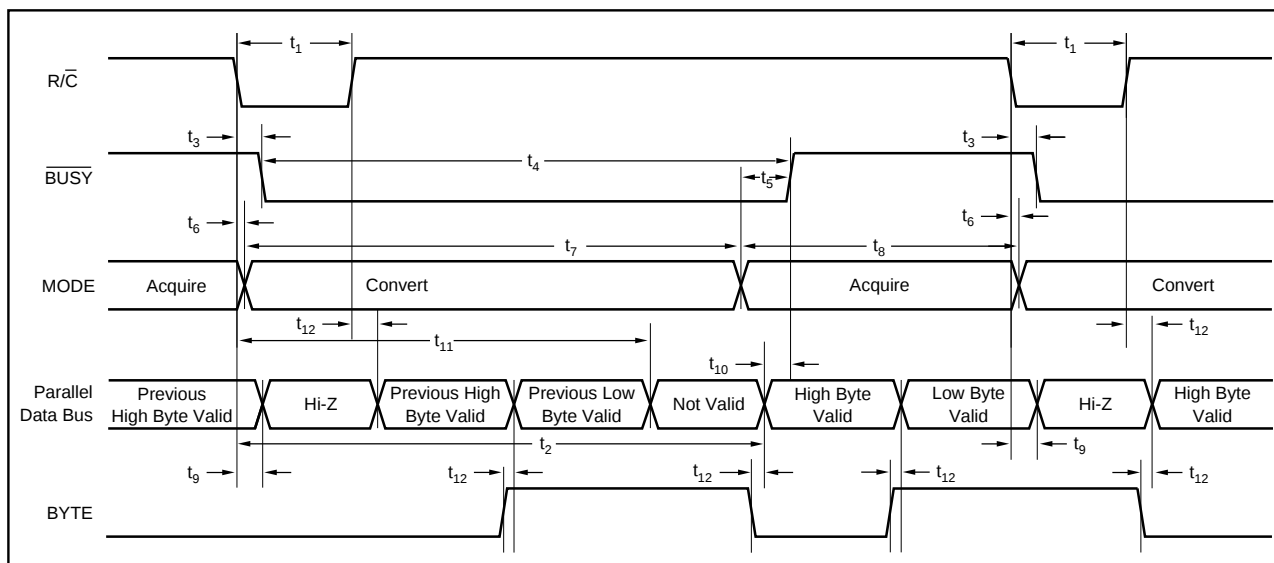

FIGURE 2. Conversion Timing with Parallel Output ($\overline{\text{CS}}$ and DATACLK tied LOW, $\overline{\text{EXT/INT}}$ tied HIGH).
The ADS7806 will begin tracking the input signal at the end of the conversion. Allowing 25µs between convert commands assures accurate acquisition of a new signal. Refer to Tables III and IV for a summary of $\overline{CS}$, $R/\overline{C}$, and $\overline{BUSY}$ states and Figures 2 through 6 for timing diagrams.
NOTE: (1) See Figures 2 and 3 for constraints on data valid from conversion "n-1".
After conversion 'n' is completed and the output registers have been updated, $\overline{\text{BUSY}}$ (pin 24) will go HIGH. Valid data from conversion 'n' will be available on D7-D0 (pins 9-13 and 15-17). $\overline{\text{BUSY}}$ going high can be used to latch the data. Refer to Table VI and Figures 2 and 3 for timing constraints.
After conversion 'n' has been initiated, valid data from conversion 'n-1' can be read and will be valid up to 12 μs after the start of conversion 'n'. Do not attempt to read data beyond 12 μs after the start of conversion 'n' until $\overline{\text{BUSY}}$ (pin 24) goes HIGH; this may result in reading invalid data. Refer to Table VI and Figures 2 and 3 for timing constraints.